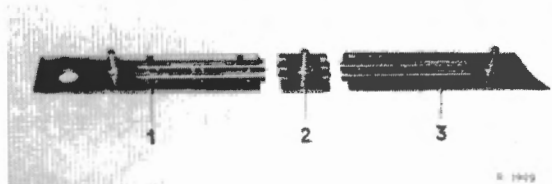

Fig. 83-2/8
Note: In order to unscrew the nuts with an articulated wrench (9) the red operating disks (4) and (5) for the mixed-air flaps are always moved into the opposite end position, i. e. to screw off the two outside nuts move the operating disks inward and to unscrew the center nuts move them outward (Fig. 83-2/6).